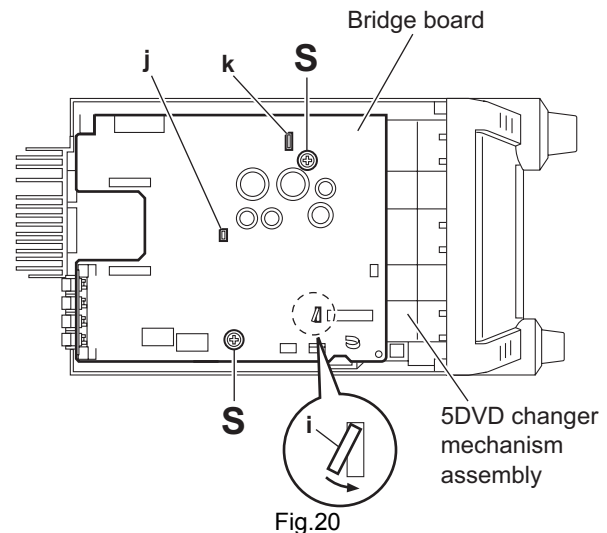

Fig.20
- (5) Remove the two screws **S** attaching the bridge board on the 5DVD changer mechanism assembly. (See Fig.20.)
- (6) Bend the claw **i** in the direction of the arrow and remove the bridge board in an upward direction. (See Fig.20.)
- When attaching the bridge board, align the projections (**j**, **k**) in the hole of the bridge board. (See Fig.20.)